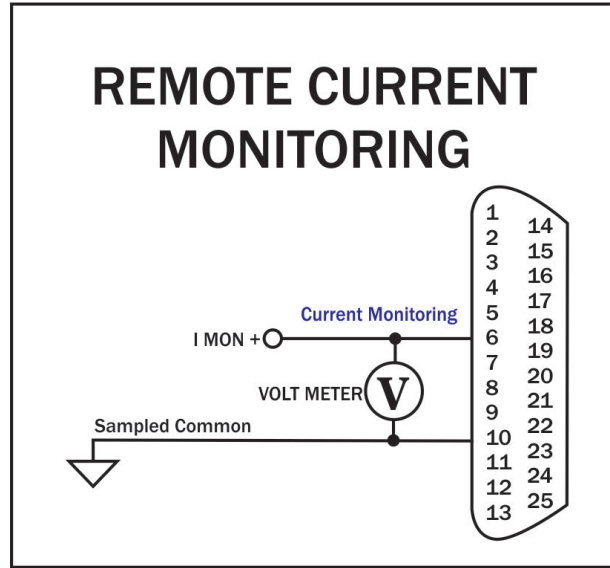

Figure 5.5 – Remote Current Monitoring
**Method:** Connect a voltage meter to monitor the output current being produced by the amplifier. Connect across PIN 6 (I MON+) and PIN 10 (Sampled Common). See **Figure 5.5**.